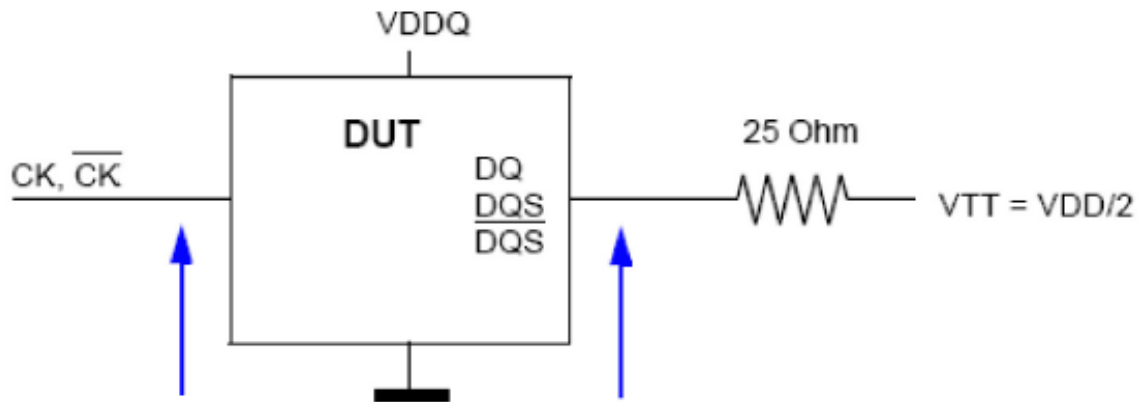

Figure 21 — Reference Load for AC Timing and Output Slew Rate
Figure 21 represents the effective reference load of 25 ohms used in defining the relevant AC timing parameters of the device as well as output slew rate measurements.
c. Single-ended Output pullup and pulldown slew rate is measured into R_{TT} of 25 ohms to V_{TT} (see Figure 21). The slew rate is measured between $V_{OH(AC)}$ and $V_{OL(AC)}$ AC Level (see Table 38 for $V_{OH(AC)}$ and $V_{OL(AC)}$ AC Level definition, and see Table 40 for rising and falling edges measurement details). It is guaranteed for any pattern of data, including all outputs switching and only one output switching.
d. Differential Output pullup and pulldown slew rate is measured into R_{TT} of 25 ohms to V_{TT} (see Figure 21). The slew rate is measured between $V_{OHdiff(AC)}$ and $V_{OLdiff(AC)}$ AC Level (see Table 39 for $V_{OHdiff(AC)}$ and $V_{OLdiff(AC)}$ AC Level definition, and see Table 41 for rising and falling edges measurement details). It is guaranteed for any pattern of data, including all outputs switching and only one output switching.